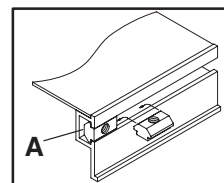

Figure 2
1. Insert two Single Drop-in T-bars (Figure 2, item A) into conveyor T-slot.